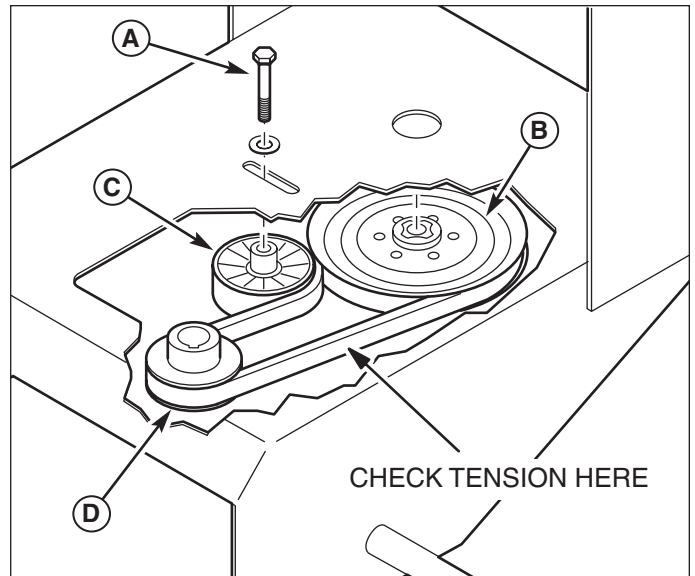

Figure 15. Gearbox Drive Belt
1. First check the belt tension. A 10lbs. (13,5Nm) force is required to deflect the belt 3/16" (4,7mm). See Figure 15.
2. Loosen the idler mount bolt (A) and slide the idler pulley (C) to adjust the belt tension. Retighten the mount bolt.
4. Loosen the idler mount bolt (A) to remove the tension on the belt and then remove the belt from the gearbox input pulley (B).
6. Tighten the idler mount bolt (A) and check the belt tension. A 10lbs. (13,5Nm) force is required to deflect the belt 3/16" (4,7mm). See Figure 15.